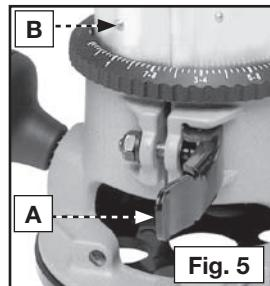

Fig. 5
1. Open the clamp (A) Fig. 5 and set the power unit in the base unit.
2. Align the lower pin of the power unit (B) Fig. 5 with the groove in the base.